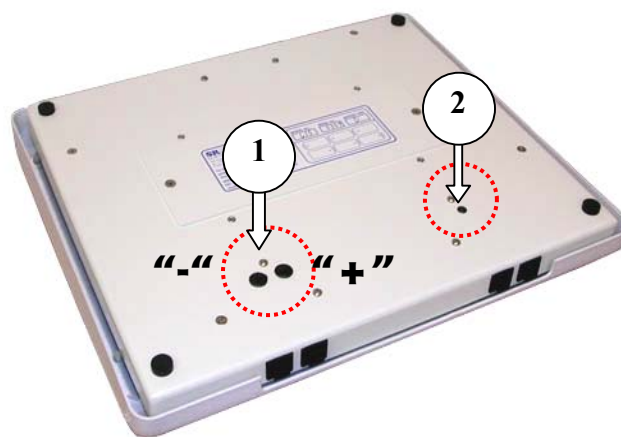

Figure 5: Calibration Buttons (1) and Offset Potentiometer Screw (2)
(Figure 5) Place Scale Base upside down on countertop. Remove the black hole plugs on the underside of the scale from the two (2) calibration buttons (1) and one (1) potentiometer offset screw (2).
STEP 2: Press and hold both "CAL" buttons (1) simultaneously for 10 seconds. The display will read "HOLD TO CAL" as the right hand digit counts down to enter the CAL mode.
STEP 3: Attach cradle. Offset figure should read between +2.00 lbs and +2.50 lbs. Adjust figure by using the Offset Potentiometer Screw (2). (Fine blade screwdriver required.)